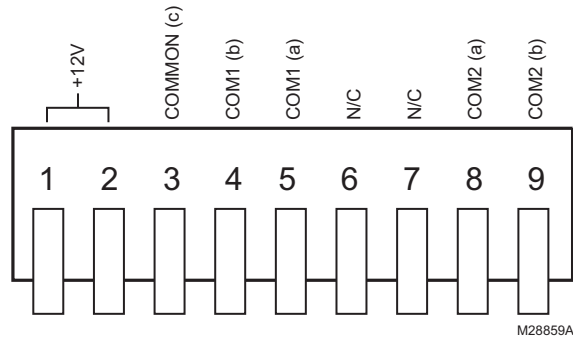
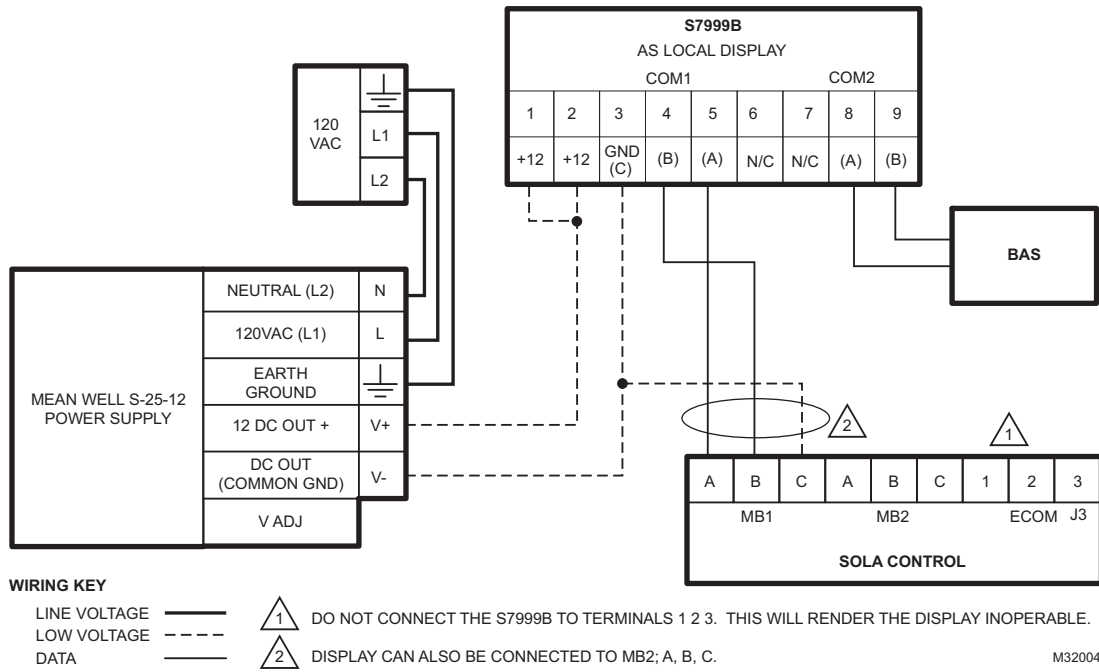

Fig. 2. S7999B OI Display connector terminals.
Fig. 3. S7999B wiring diagram.
12. Wire the connector to the power supply and the RS-485 cables using the wiring diagram in Fig. 3.
See Fig. 2 for S7999B Display connector terminals. Wiring connections are listed in Table 1. See Fig. 3 for wiring.